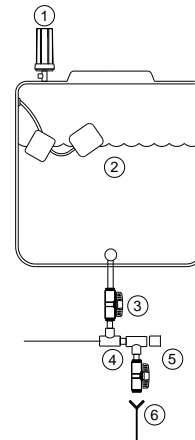

FIGURE 12: ATMOSPHERIC TANK
3. Turn off the storage tank ball valve (Fig.12, #3) to the supply line and disconnect the supply lines.
4. Connect a line from the tank ball valve (Fig.12, #6) to a drain and drain the tank.
12. Change the tank air exchange filter (Fig.12, #1) and clean the housing.